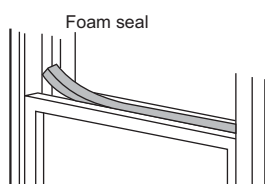

Fig.11
5. Trim the last foam seal to the proper length to seal the open gap between the top window sash and outer window sash (Fig.11)